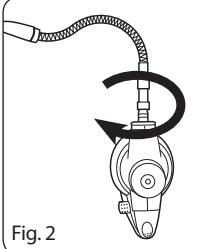

Fig. 2
1. Install the hose with integrated handle on the steam nozzle of the steam cleaner (Fig. 2). Align the marks on the nozzle and on the hose and turn the extension clockwise until it clicks into place.